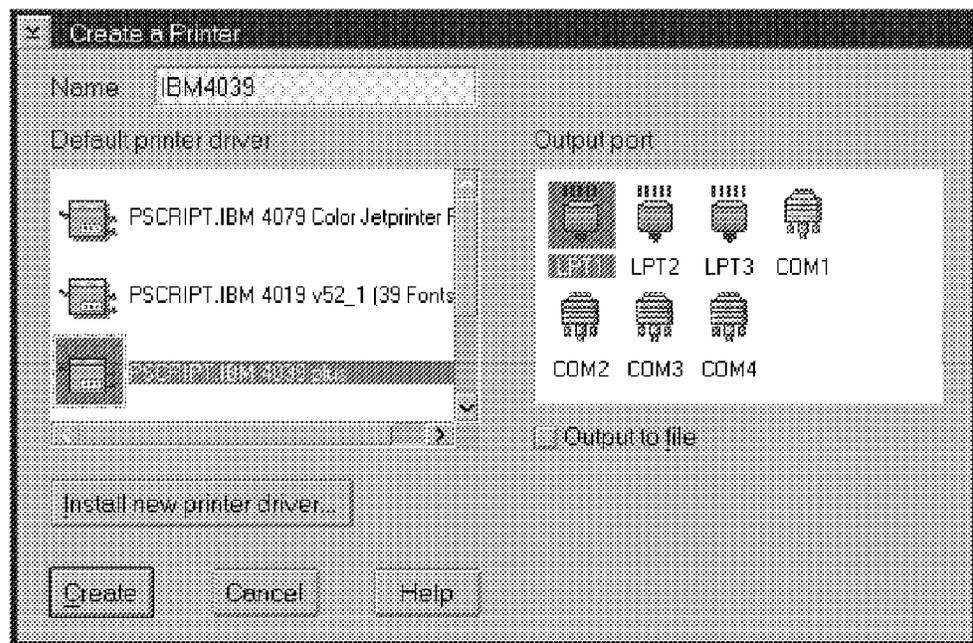

Figure 171. Creating a Print Object
2. Click and hold the right mouse button over the **Printer** icon, drag it to the **OS/2 Desktop** and release the button. The Create a Printer window shown in Figure 171 will open.